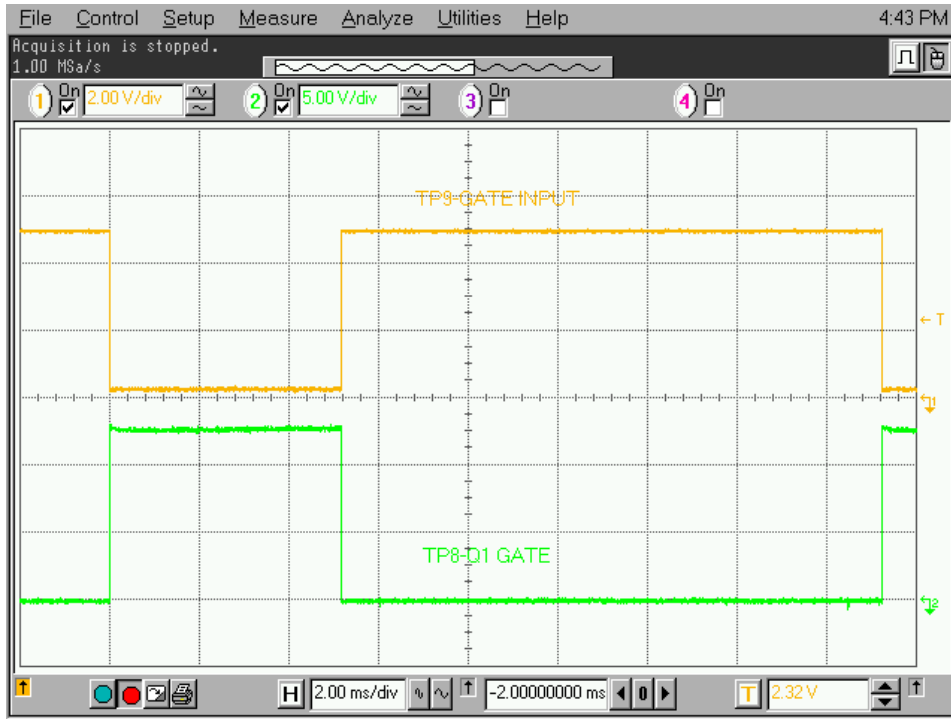

Figure 6.35 – Gating pulses
18. Verify that the signals at TP9 and TP8 are as shown in Fig. 6.35.